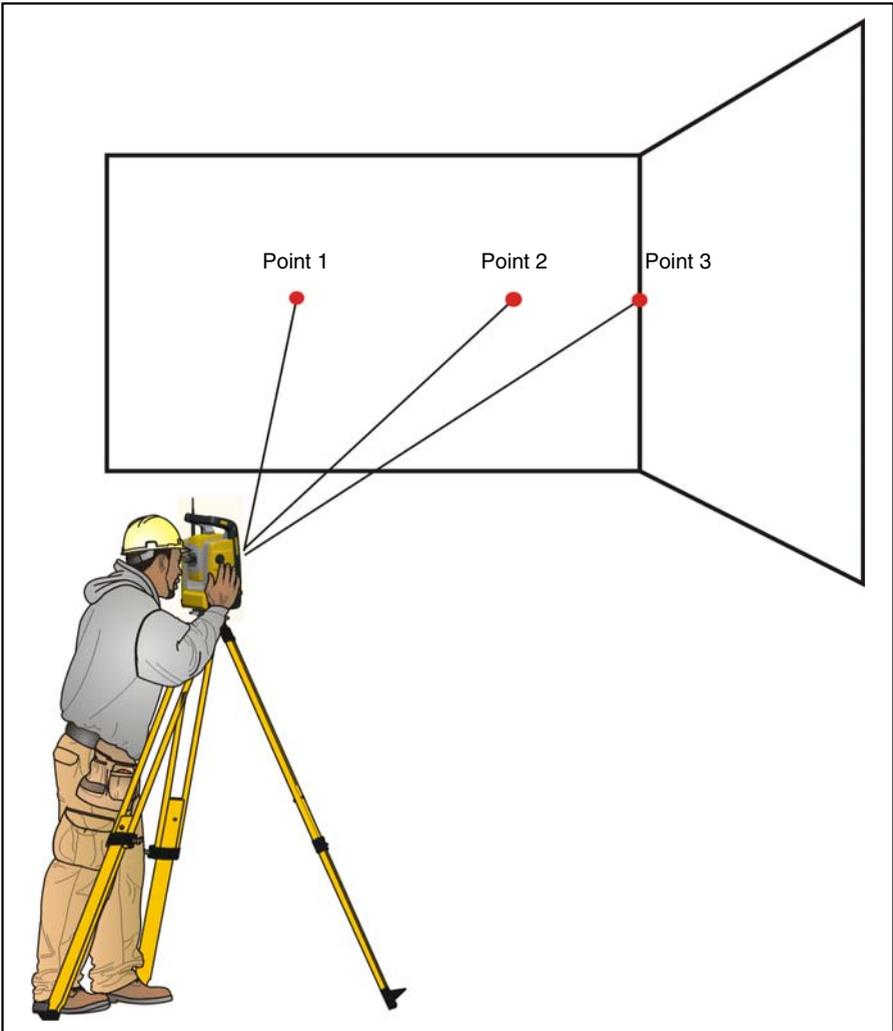

Figure 5.31 Offset measurement
2. Aim the Trimble SPSx20 Total Station at the corner to store the correct horizontal and vertical angle. See figure 5.31